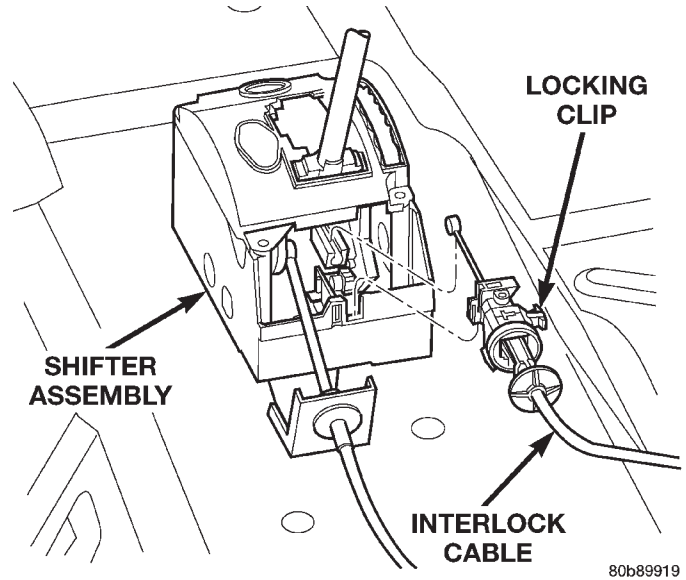

Fig. 16 Interlock Cable at Floor Shifter Assembly
- (6) Pry up the adjuster lock on the shifter/ignition interlock cable (Fig. 16). Unsnap the shifter/ignition interlock cable end fitting from the groove in the gearshift mechanism.
- (3) Slip interlock cable core wire into interlock adjustment lever groove. Make sure the interlock cable slug is seated in the groove (Fig. 16).
- (4) Slip interlock cable conduit end fitting into base and snap into place (Fig. 16).
- (5) Adjust the gearshift and interlock cables. Refer to Adjustments in this group.